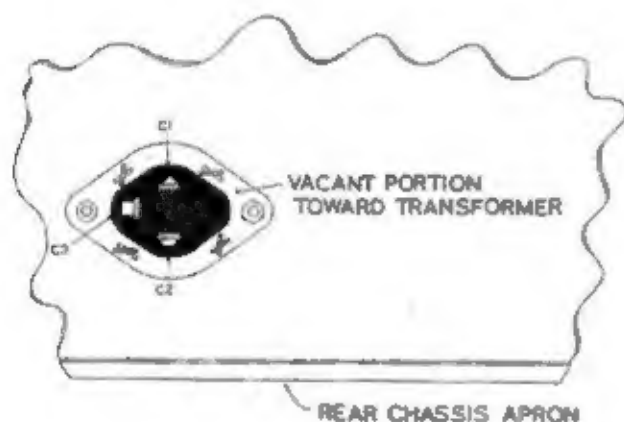

Fig. 1
- () 3. Install the condenser mounting wafer at C using 6-32 hardware. Observe the insulating board at the base end of the filter condenser. This board has been punched with identifying cutouts adjacent to each terminal; a semi-circle, a square, and a triangle. Insert the four lugs on the condenser case through the slots in the metal wafer, with the terminals in the right position. Using long nose pliers, twist each of the four case lugs about one-eighth turn, securing the condenser firmly to the wafer. See Figure 1.